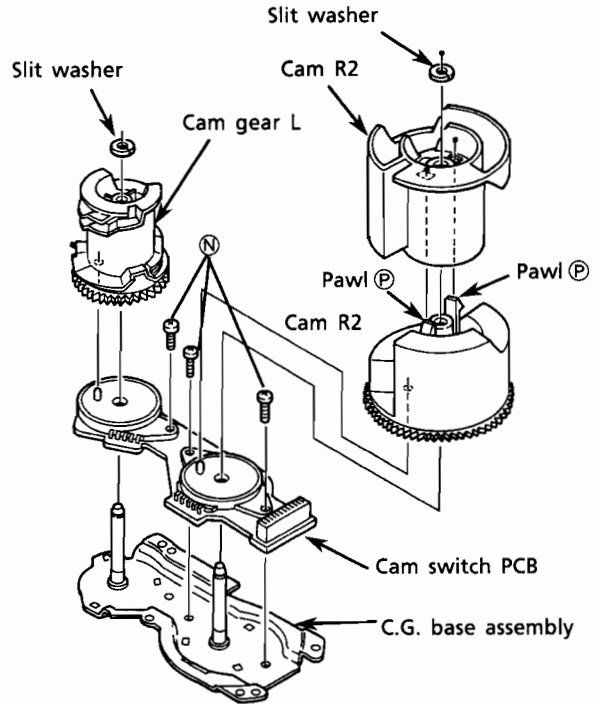

Fig. 48
(See Fig. 48.)
(30) Removal of C.G. base ass'y
Remove 3 screws ④ securing the C.G. base ass'y. (See Fig. 48 and 49.)